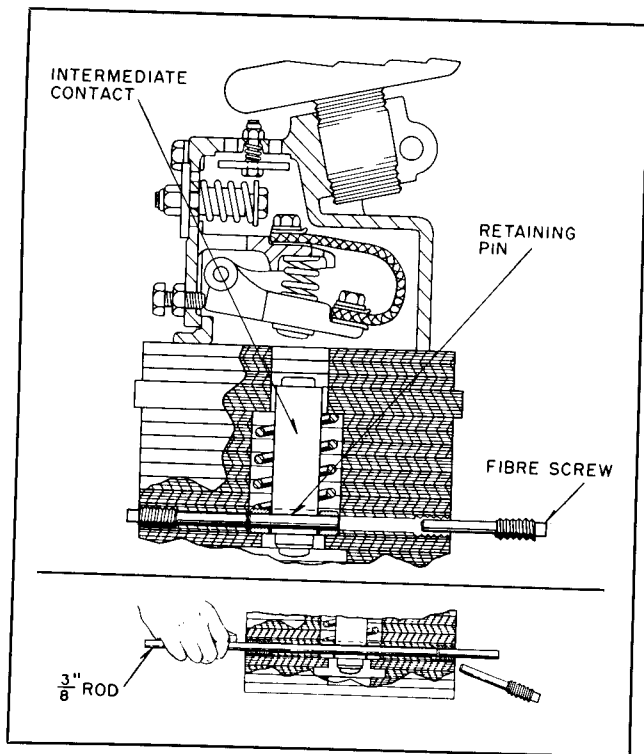

FIG. 6. Removing Retaining Pin from Intermediate Contact
Remove the long fibre screws in opposite sides of the grid. (See Fig. 6.) The intermediate contact is fastened by a loose pin to a surrounding ring which provides a spring seat and keeps the intermediate contact in its proper position. When the breaker is open, this loose pin will line up with the holes uncovered by the fibre screws, so that it may be driven out with a long rod, $\frac{3}{8}$ in., or less, diameter (pin is $\frac{3}{8}$ in. diameter).
1. Close the breaker slowly by hand until the moving contact just touches the intermediate contact. This may be checked by "lighting out" between the moving and intermediate contact, using either a flashlight or a bell ringer. The intermediate contact may be reached by removing one of the fibre screws in the side of the grid, and inserting a piece of stiff wire. (Refer to Fig. 6). If both grids